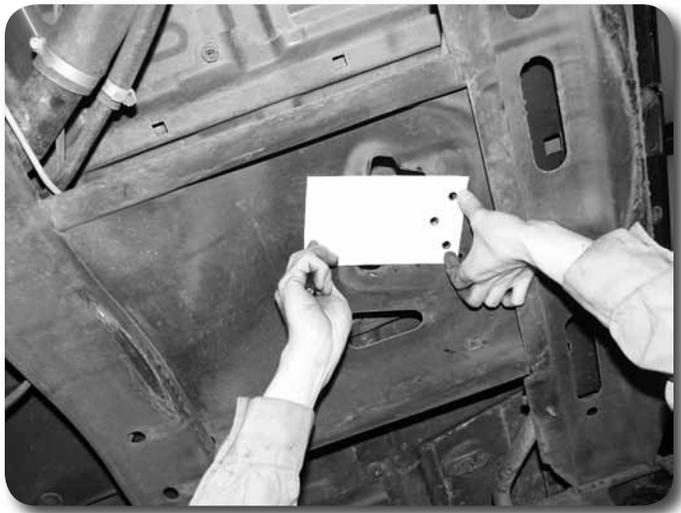

Figure 34
83. Remove the bracket and align the paper template with the holes. Mark the 2 additional holes to be drilled on the opposite side. Drill to 3/8". Figure 34